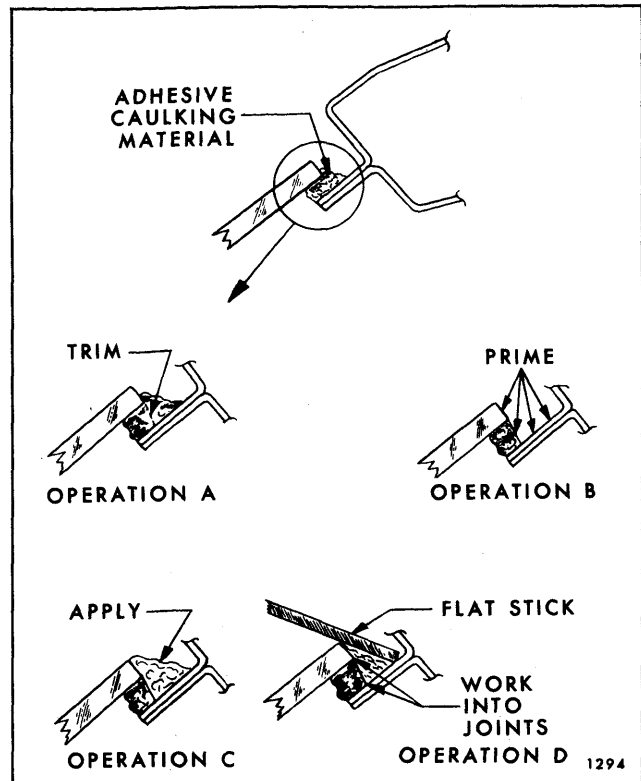

Fig. 1-5—Adhesive Glass Waterleak Correction
4. Using a sharp knife, trim off uneven edge of adhesive caulking material (see Operation "A" Fig. 1-5) at leak point and 3 to 4 inches on both sides of leak point or beyond limits of leak area.
5. Using a small brush, apply adhesive caulking material primer over trimmed edge of adhesive caulking material and over adjacent painted surface (see Operation "B" Fig. 1-5).
6. Apply adhesive caulking material, as shown in Operation "C" (Fig. 1-5), at leak point and 3 to 4 inches on both sides of leak point or beyond limits of leak area.
7. Immediately after performing step 6, use flat stick or other suitable flat-bladed tool to work adhesive caulking material well into leak point and into joint of original material and body to effect a watertight seal along entire length of material application (See Operation "D" Fig. 1-5).